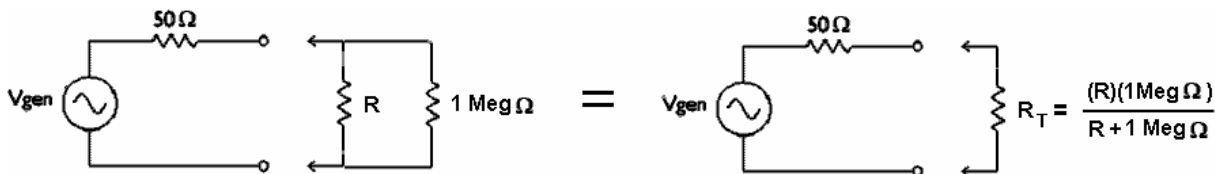

Figure B-4
Note that the voltage divider rule applies only to series circuits. Any time we use our measuring devices to measure the voltage across a device, as illustrated in figure B-4, we are combining that device in parallel with the resistance we are measuring. So just measuring the resistance of a single resistor attached to the function generator would involve combining the scope impedance (1Meg  $\Omega$ ) with the resistance of the resistor ( $R$ ) to find the total load resistance,  $R_T$ .
- Let's look at a circuit that has the correct load impedance. Take a resistor of about 50 ohms (47 or 51) and hook it to the function generator. You don't need to remove the scope connection, simply connect a BNC cable with a mini-grabber connector between the other end of the tee and a 50 ohm resistor. Your circuit now looks like figure B-4.